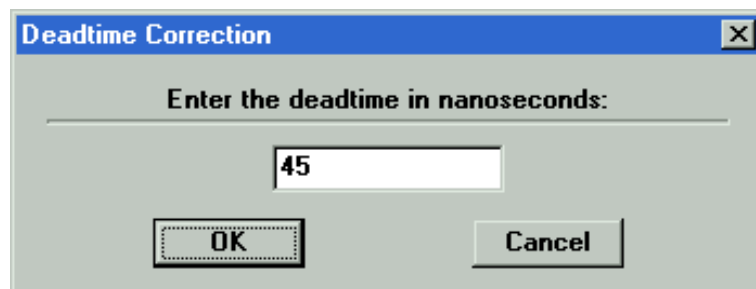

Fig. 35. Deadtime Correction Dialog.
3. Click on **OK**. This will open the dialog shown in Fig. 35, which displays the default dead-time value and allows you to change it. If you have not measured the dead time by the procedure outlined in Section 5.3.8.2 below, use 45 ns. This will be within 20% of the correct value. If you have measured a more accurate value, enter it then click on **OK** to start the correction.